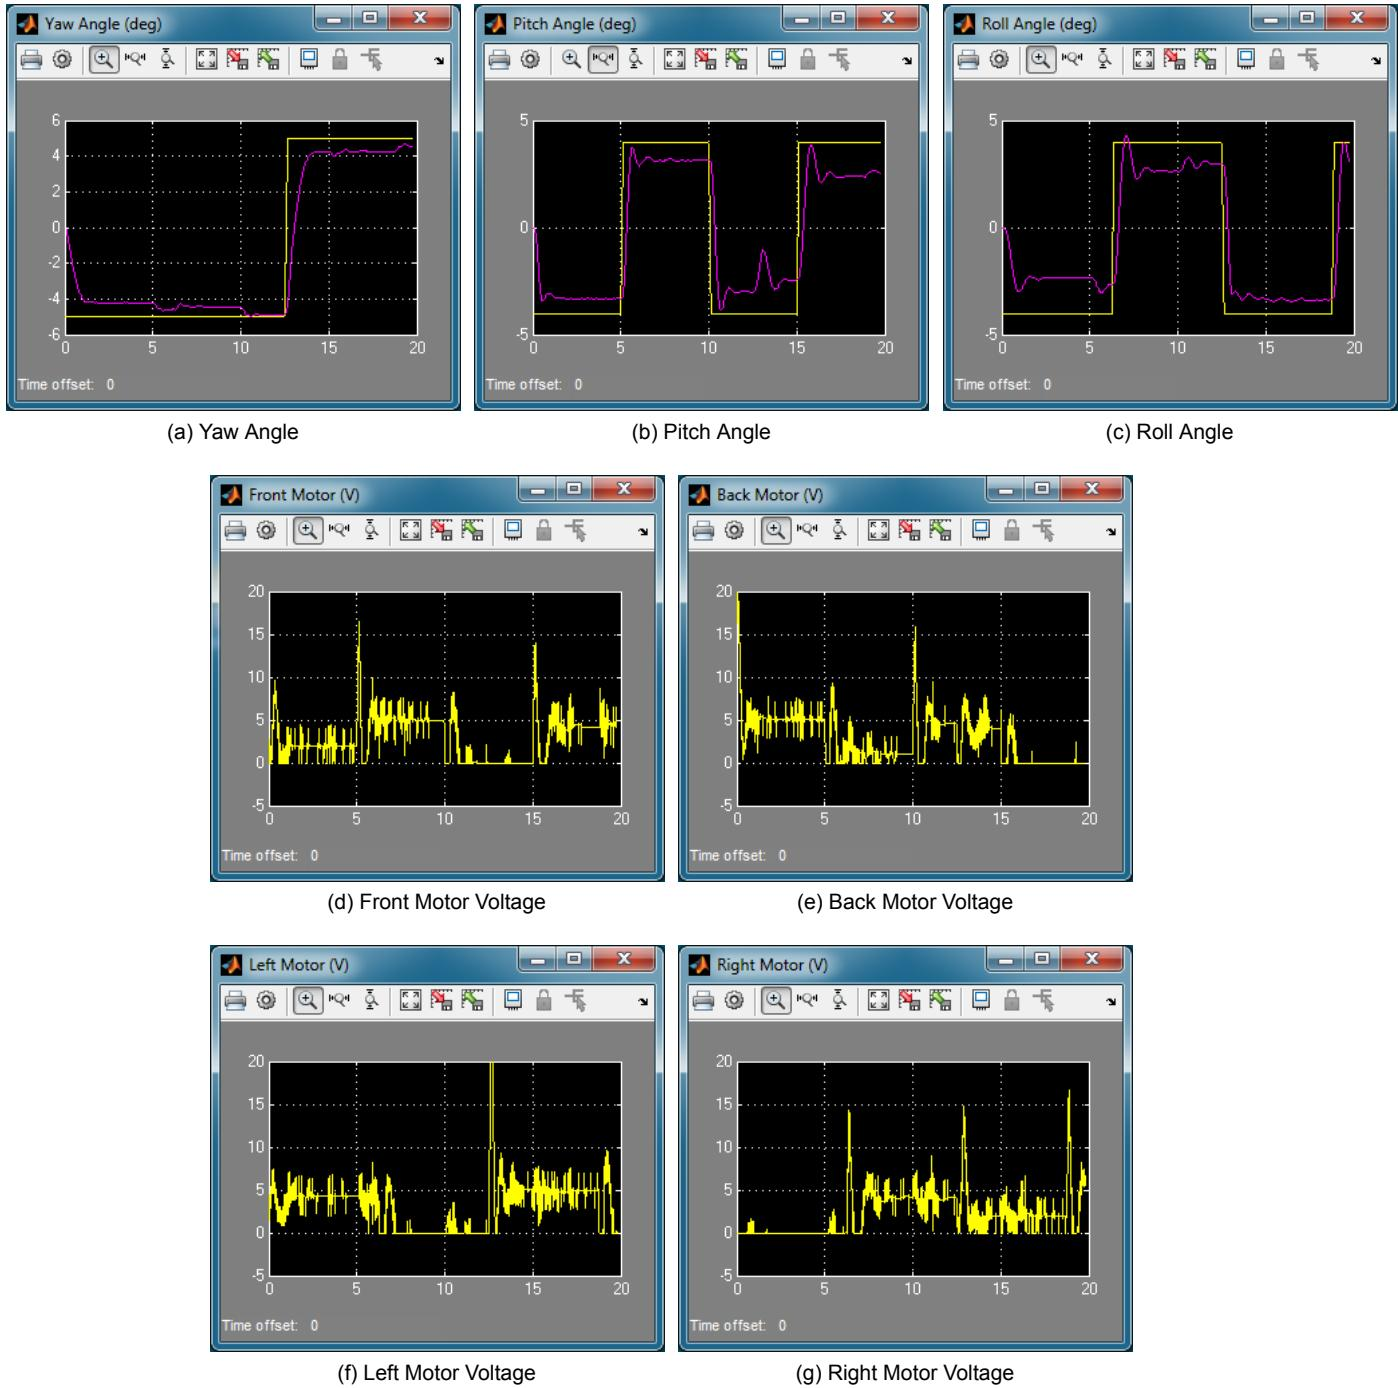

Figure 3.4: Sample closed-loop response of 3 DOF Hover
5. Click on QUARC | Start to run the controller. See the sample response shown in Figure 3.4 using a yaw step of  $\pm 5$  degrees at 0.04 Hz, a pitch of  $\pm 4$  degrees at 0.1 Hz, and a roll of  $\pm 4$  degrees at 0.08 Hz.